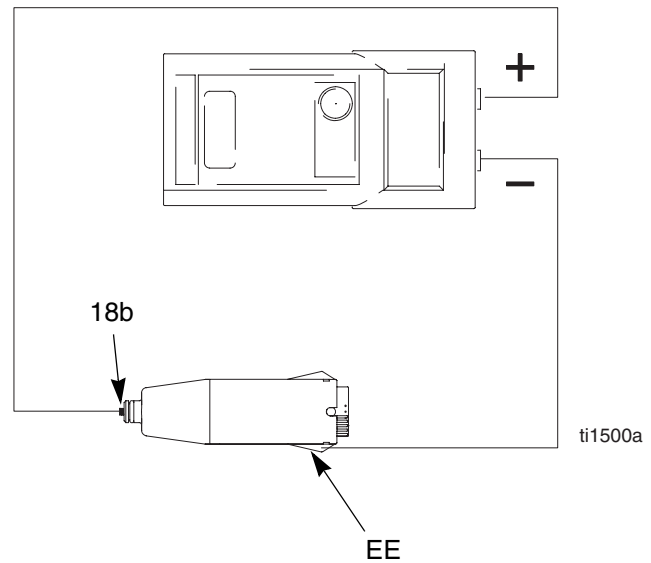

Fig. 5. Test Power Supply Resistance
1. Remove the power supply (18), page 29.
2. Remove the turbine alternator (19) from the power supply, page 30.
3. Measure resistance from the power supply's ground strips (EE) to the spring (18b). See FIG. 5..